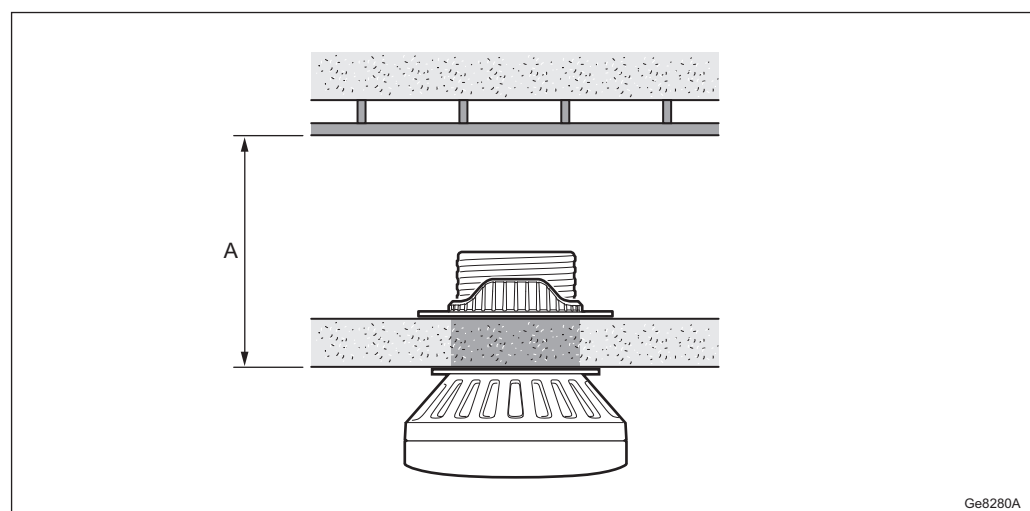

Figure 6 Ceiling Distance
The distance, (A) in Figure 6, between the lower ceiling bottom and the lowest part of the upper ceiling, for example, a cable rack, must be at least 110 mm. This is to ensure a minimum amount of air around the RD for the cooling function to work properly.